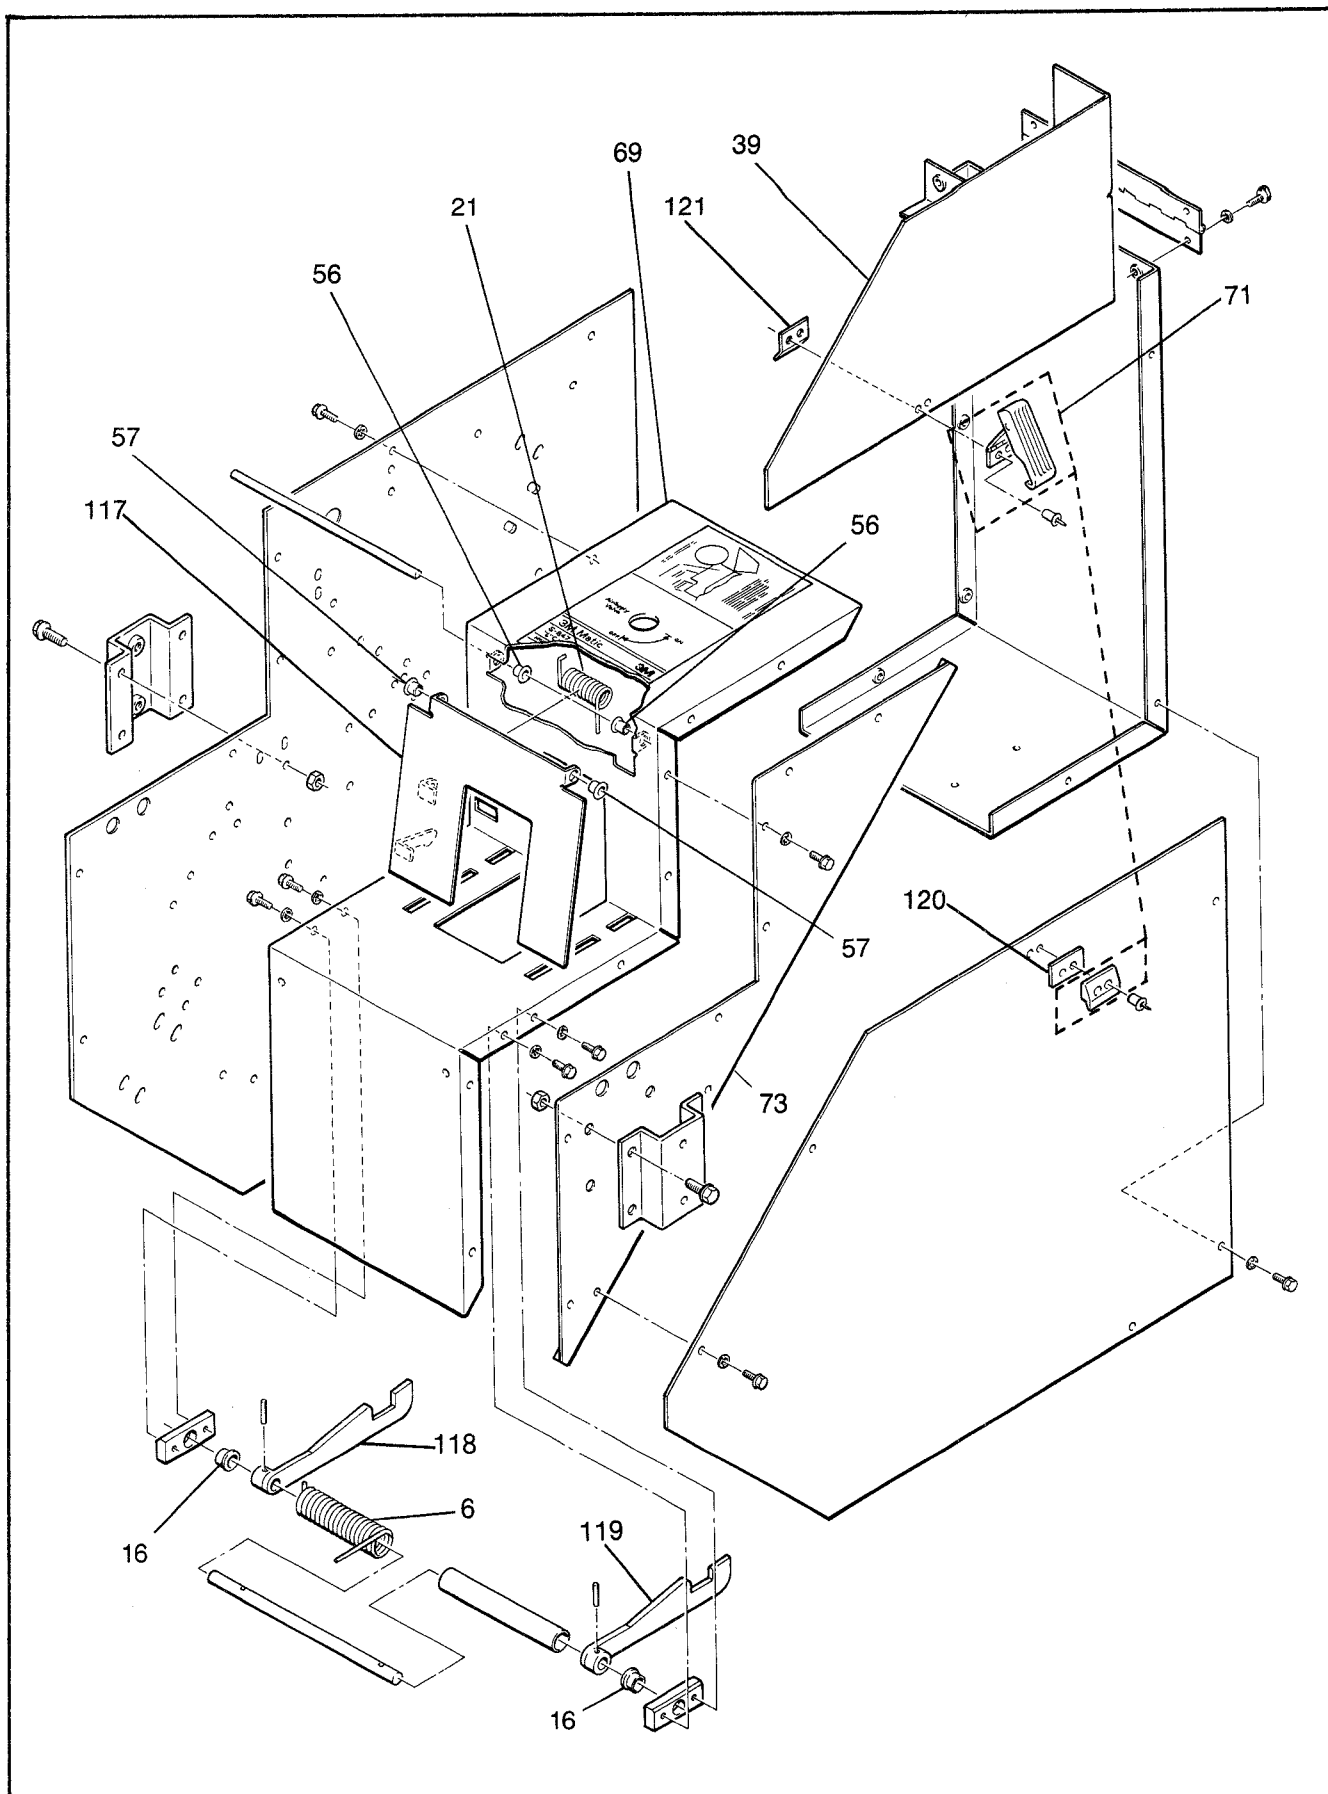

Figure 10 - Main Frame - Nest - Covers
1. Refer to Figures 10 thru 18 to determine individual part and reference number. Refer to replacement parts list for the part number and part name.